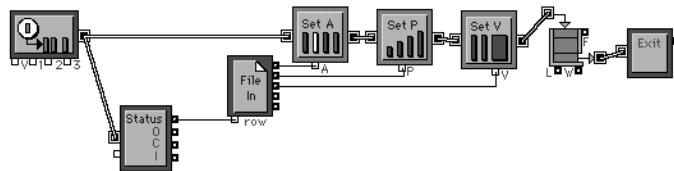

Figure 17: Getting values from a file
Figure 17 shows the entire model. The Generator block sends out items whose arrival times correspond to a normal distribution with a mean of 4 and a standard deviation of 1. In that dialog, the Value for “value of items (V)” is the default of 1. The Status block *views* the items as they are generated and gathers information about them. The *Status connector* of the Status block outputs the number of items that have been generated so far in the simulation. This value is put into the *row* connector of the File Input block so that as each item is generated, the File Input block will output the data for the row corresponding to the number of that item. For example, when item number 2 is produced by the Generator, the File Input block will put out the data for row two.